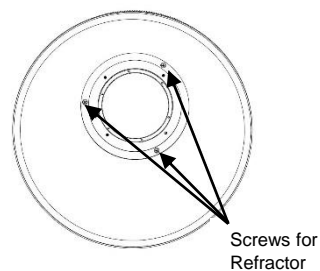

Figure 1
1. Remove housing (A) along with hardware bag from packaging.
2. Remove refractor (B)/reflector (C) from packaging.
3. Attach the housing to refractor/reflector by using 3 screws (from hardware bag). (See Fig. 1)